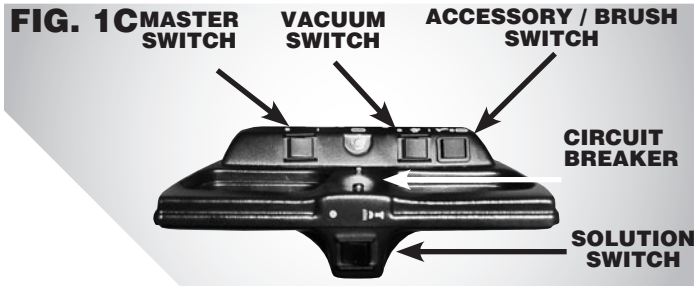
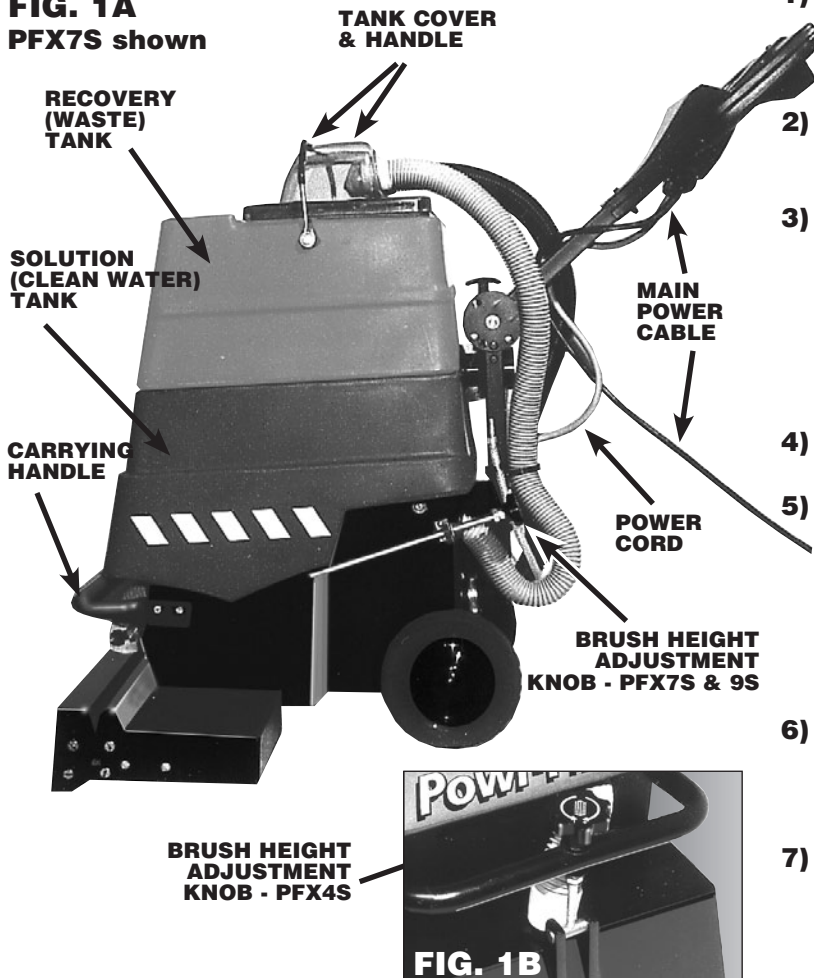

FIG. 1A
FIG. 1B
- 3) Adjust the machine brush operating depth with the knob on the back of models PFX 7S & 9S (**FIG. 1A**) and the front of PFX4S (**FIG. 1B**) to suit the carpet height. **NOTE:** The raised counter clockwise position of the knob should be used when the machine is being stored. **NOTE:** Excess brush contact may overload motor circuit breaker or reduce wet extraction quality.
- 4) Remove the transparent cover and remove the recovery tank below cover. (**FIG. 1A**)
- 6) Replace recovery (dirty water) tank above solution tank. (**FIG. 1A**) Add defoamer solution per manufacturer's instructions as needed. 2 oz. Powr-Flite Powr-Defoamer®
- 7) Replace the transparent cover. Pull back handle to lock cover into place. (**FIG. 1A**) Treat heavily soiled areas by using traffic lane cleaner such as Powr-Flite's Fast Lane®.
- 1) Plug main power cable (**FIG. 1A**) into outlet. **WARNING: This machine must be properly grounded.** See grounding instructions.
- 4) Make sure to empty the recovery (top) tank (**FIG. 1A**) when it is approximately 3/4 full. Do not refill the solution tank without emptying all the contents of the recovery tank first.